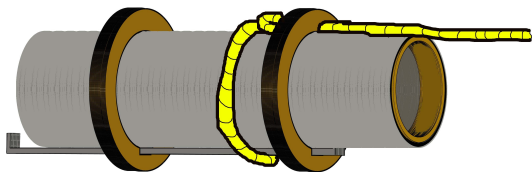

Figure 5
- **Step 10** Tie a slip knot around the middle of the engine mount using the Kevlar thread, as shown in Fig. 5.